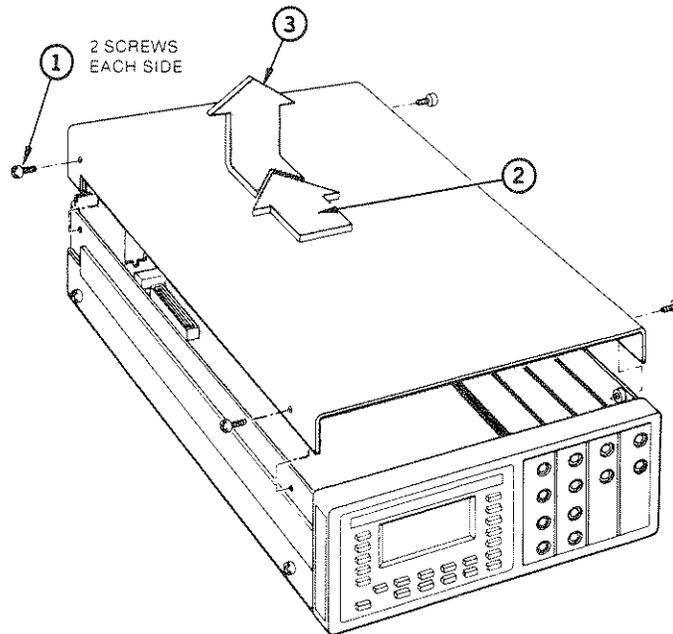
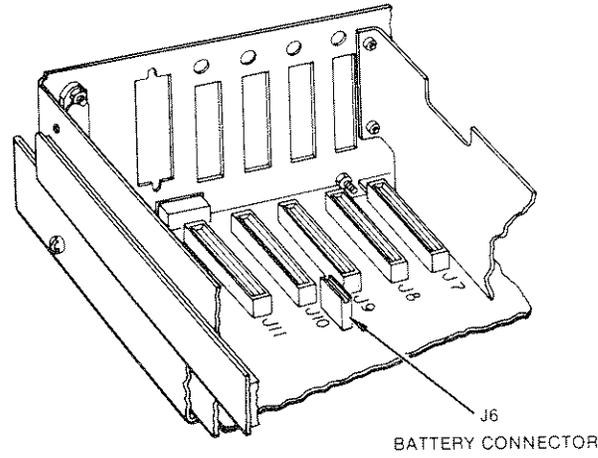

Figure 2-7. Top Cover Removal
Figure 2-8. Battery Connection
2. Remove the top cover; see figure 2-7.
3. Disconnect the battery cable from J6; see figure 2-8.
6. Replace the battery charger fuse cover, connect the battery cable to the circuit board (figure 2-8) and replace the top cover (figure 2-7).